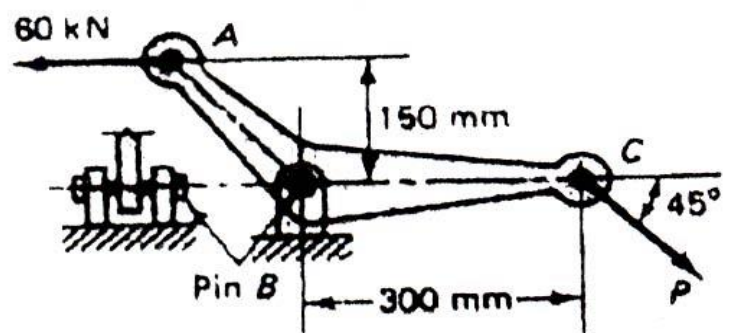

Figure 10
- Using the principle of virtual work find the force  $P$  required keeping the system in equilibrium in Figure 10.